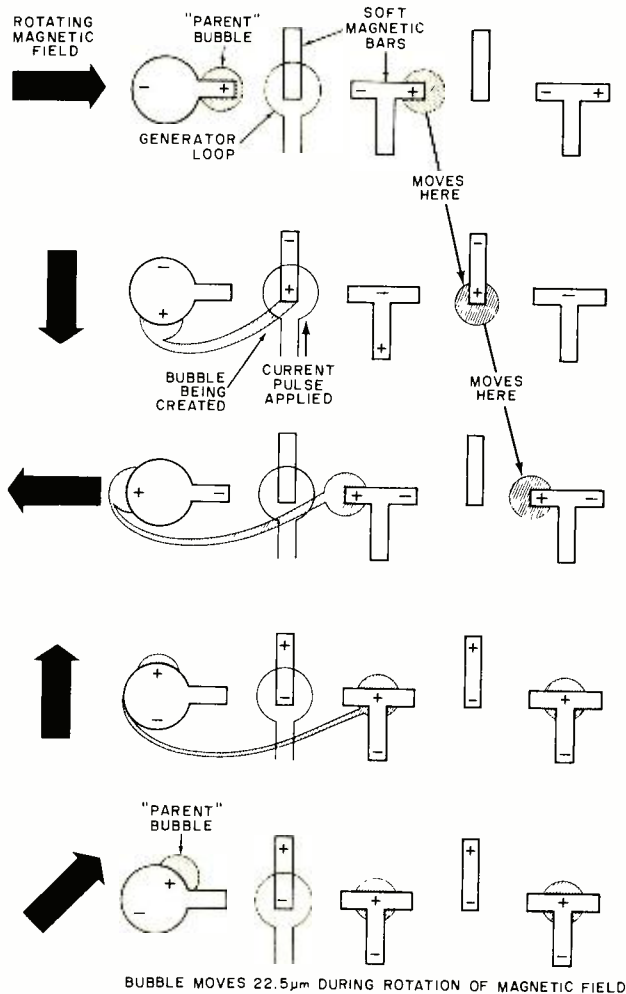

Fig. 3. A bubble, once established, is moved around between soft magnetic bars by rotating magnetic field at left.
**Bubble Motion.** Once a bubble has been established, it must be moved around so that it can be used as a data bit. How this motion is achieved is shown in Fig. 3. The "track" along which the bubble is to be moved is composed of a series of soft magnetic bars shaped like I's and T's that are also deposited on the nonmagnetic substrate. A "parent" bubble is located under a disc of mag-
netic material. Note in Fig. 3 that another bubble is located under the first T bar and is assumed to have moved to that location during a previous cycle.